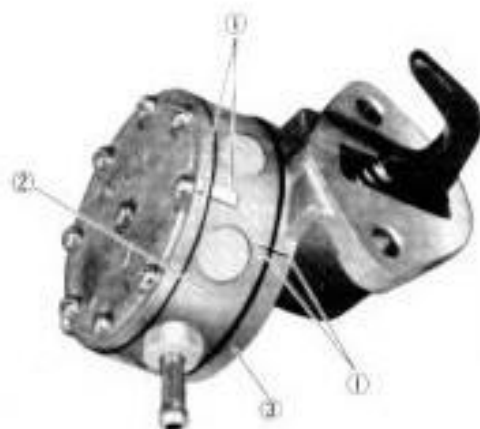

Fig. 5-8
Scribe match marks (1) across the joint seams to establish and identify the angular positions of upper half (2) and lower half (3), as shown in Fig. 5-8. This provision is necessary because the screw holes are so located as to permit the two halves to be angularly positioned in more than one way, whereas the pump can be piped only when the pump is assembled as shown.